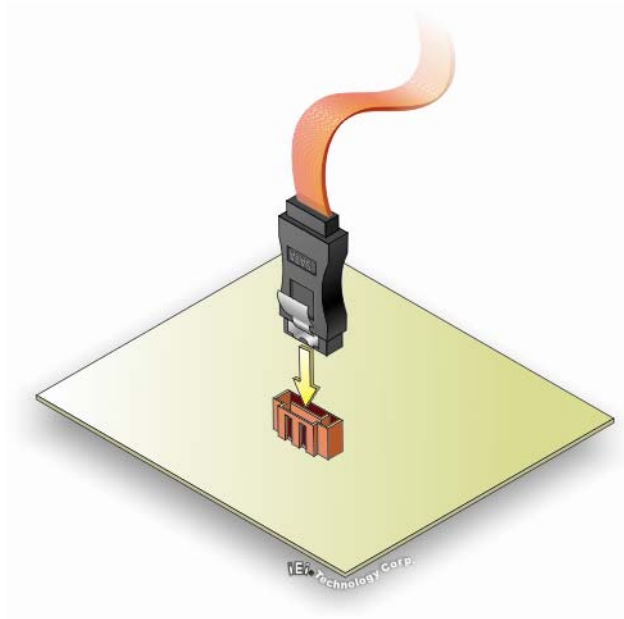

Figure 4-11: SATA Drive Cable Connection
Step 2: Insert the cable connector. Insert the cable connector into the on-board SATA drive connector until it clips into place. See Figure 4-11.